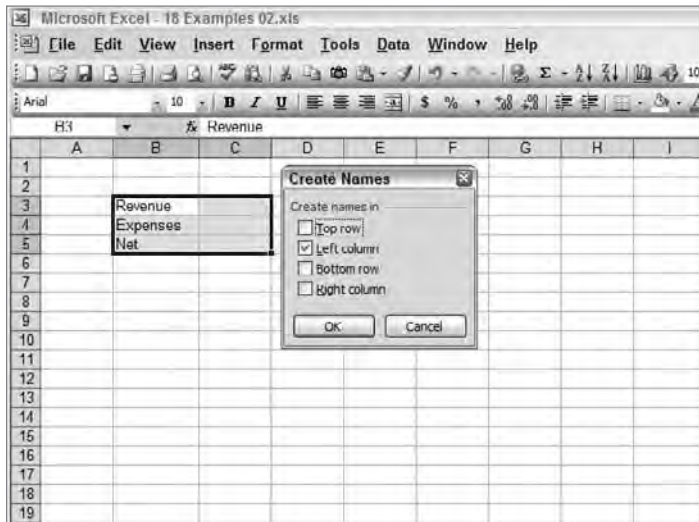

Figure 17.2: Name multiple cells from adjacent labels using the Create Names dialog box.
1. Select the cells containing the labels and adjacent cell or range to be named with the label. Figure 17.2 shows multiple cells selected and about to be named.